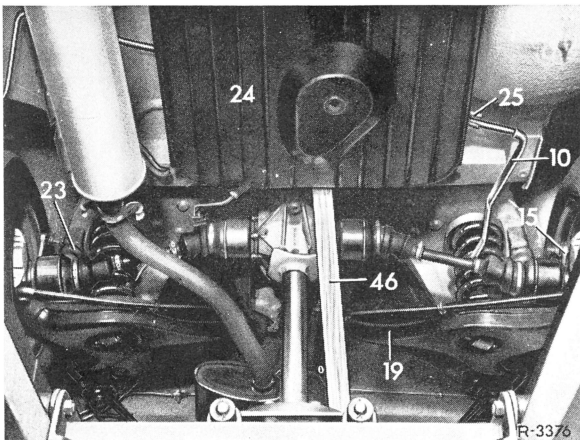

Fig. 4
Detach the front fuel tank fastening, lower fuel tank slightly and support with a suitable prop (46) (Fig.4).